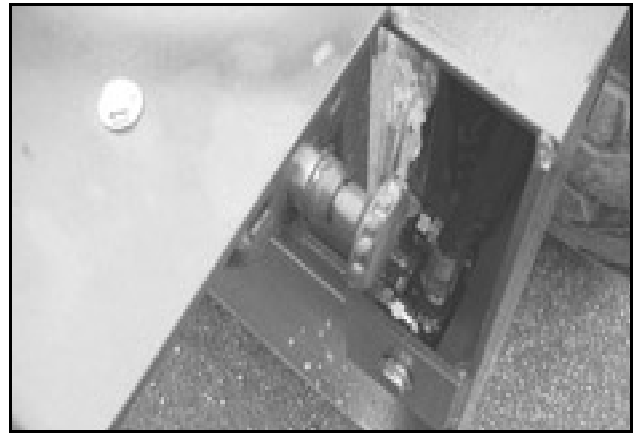

Figure 9.
4. The planer can be shifted side-to-side using the sideshift function. To operate the sideshift cylinder pull the knob on the diverter valve outward as shown in Figure 9.